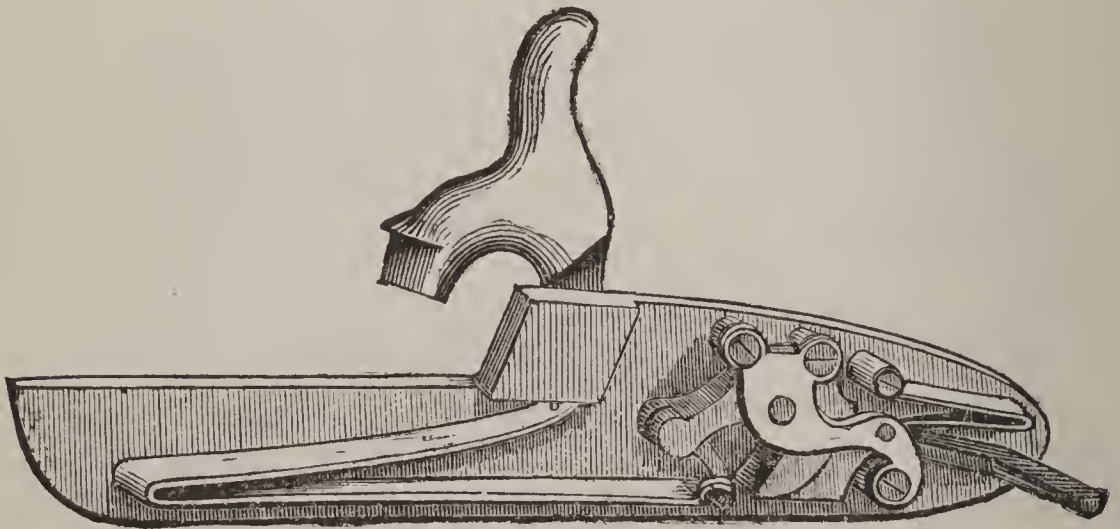

FIGURE 44.
*The Bar Lock.*—This lock, Fig. 44, is so called from a bar formed at the breech end of the barrel, and to this bar the lock is fitted. The great advantage